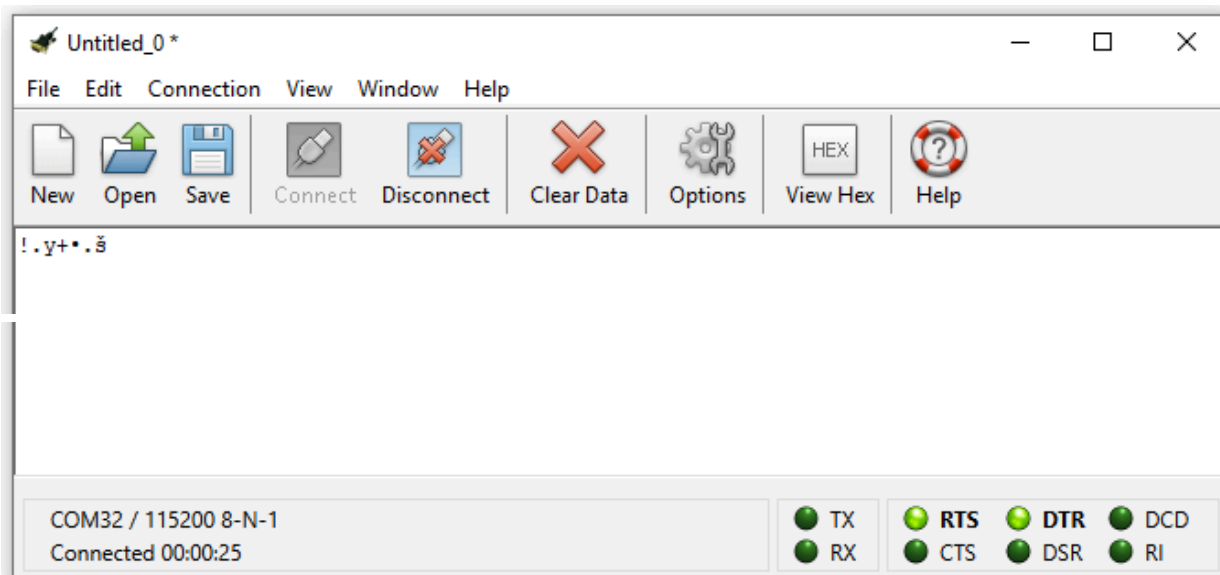

Figure 38. Example response from an eosAC-LT/LO. Responses always start with '!' and are typically 6-9 characters long
Typically chamber commands are handled through Eosense software. However, when troubleshooting it is sometimes useful to by-pass the software and communicate directly with the chambers. The use of a terminal program (such as CoolTerm) allows the user to communicate directly with a chamber. This is most conveniently done through command files - which are text files containing the hex characters that make up different chamber commands. For example, the "! AC - Chamber Close.txt" file, when sent to a listening eosAC-T/O chamber, instructs the chamber to close (see **Figure 38**).
6. If the port connects successfully, click the Connection menu and choose "**Send Textfile...**". Navigate to the folder created in step 1 and select the "**! AC - CloseChamber.txt**" file to send. The listening eosAC-LT/LO chamber should respond - this will appear as a series of ASCII characters in the CoolTerm window (see **Figure 38**), followed by the chamber closing.